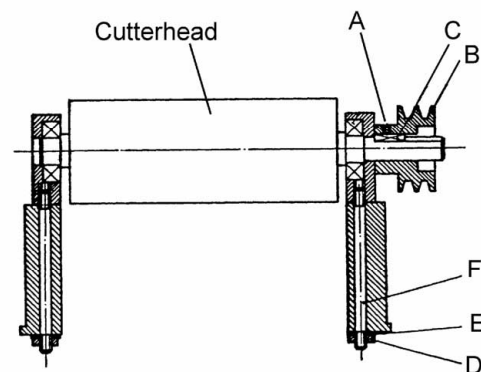

Figure 30
4. Loosen set screw (A, Fig. 30) using a hex wrench and remove the cutterhead pulley (B, Fig. 30) and key (C, Fig. 30).
5. Remove nuts (D, Fig. 30) and lock washers (E, Fig. 30).
6. Lift assembly straight up. Studs (F, Fig. 30) will still be attached to the bearing housings.